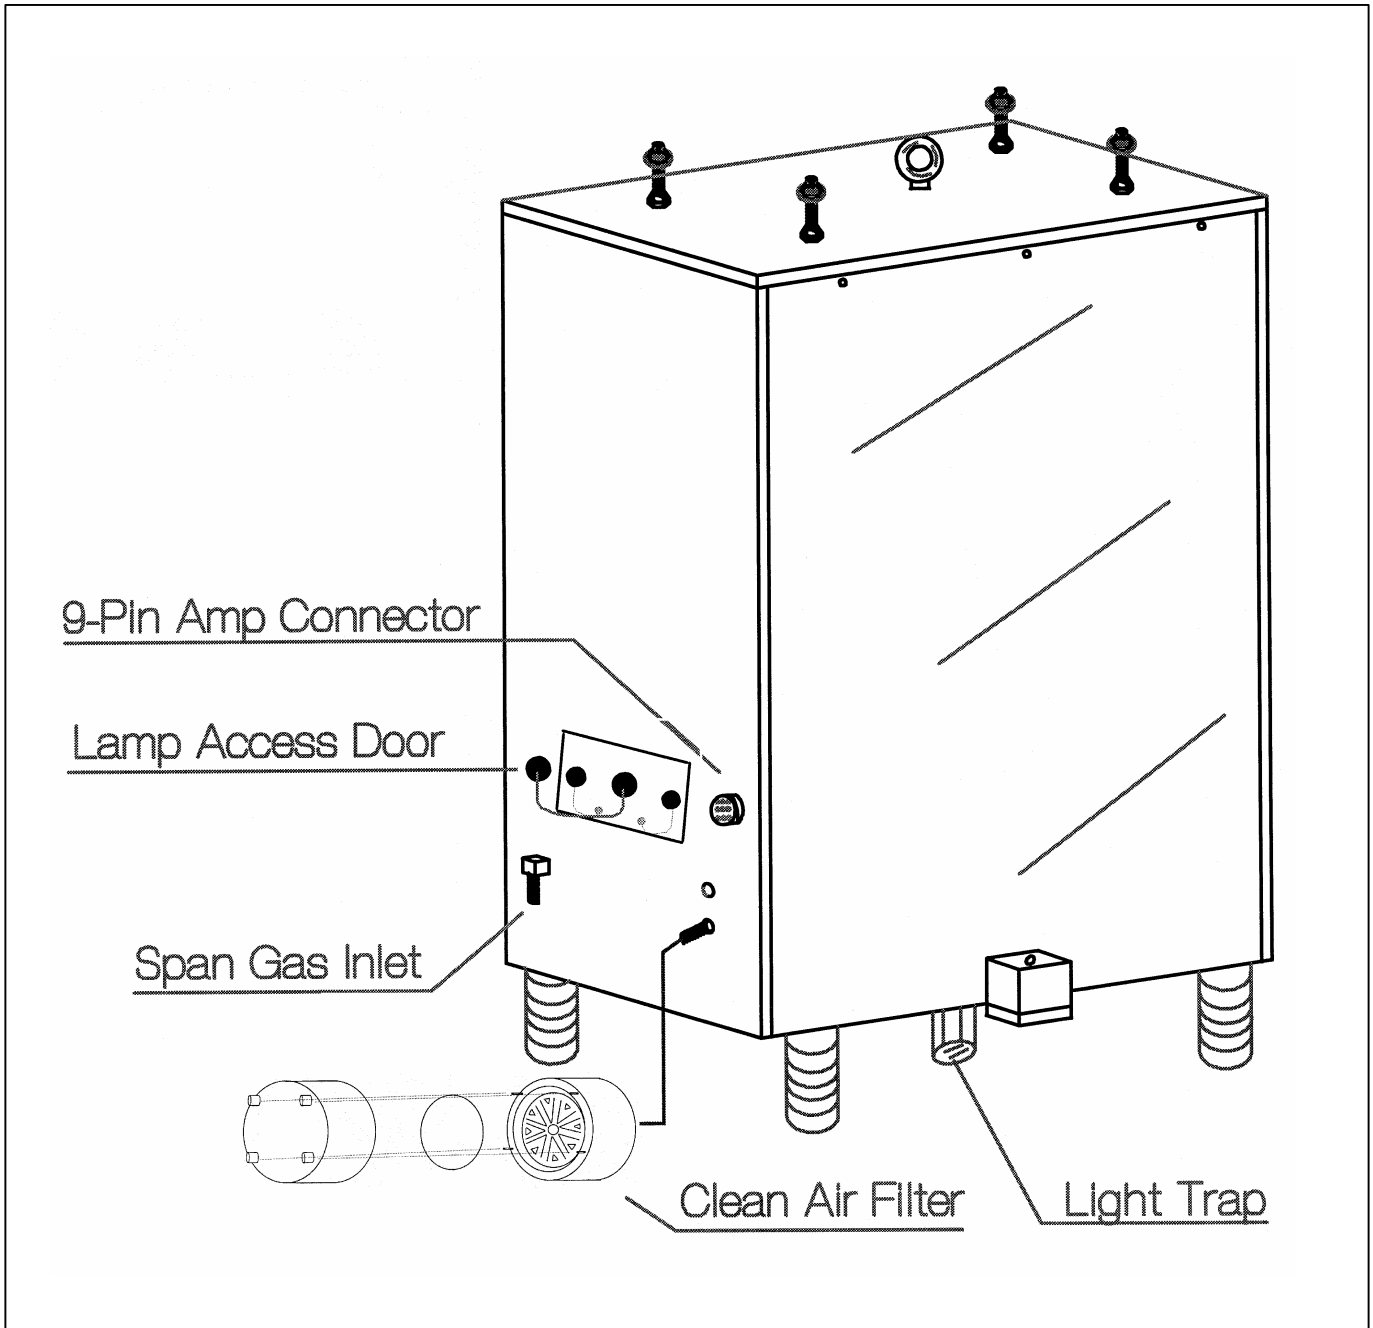

Figure 4-4. Diagram of the Clean Air Filter Assembly and Light Trap.
- CLEAN AIR FILTER** Replace the clean air filter cassette (refer to Figure 4-4):
Unthread (unscrew by hand) the light trap (refer to Figure 4-4). Note if any water or dirt is found inside the light trap. Clean with a Kimwipe or equivalent if necessary. Replace the light trap and hand tighten.